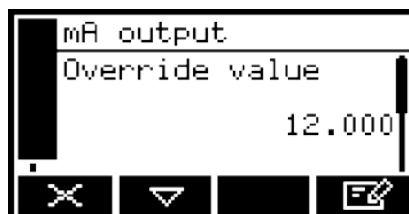

Figure 37 - The mA output override screen
2. Select the required 'Override' option, then press the  soft key. The mA output override screen will then be displayed, as shown in Figure 37.